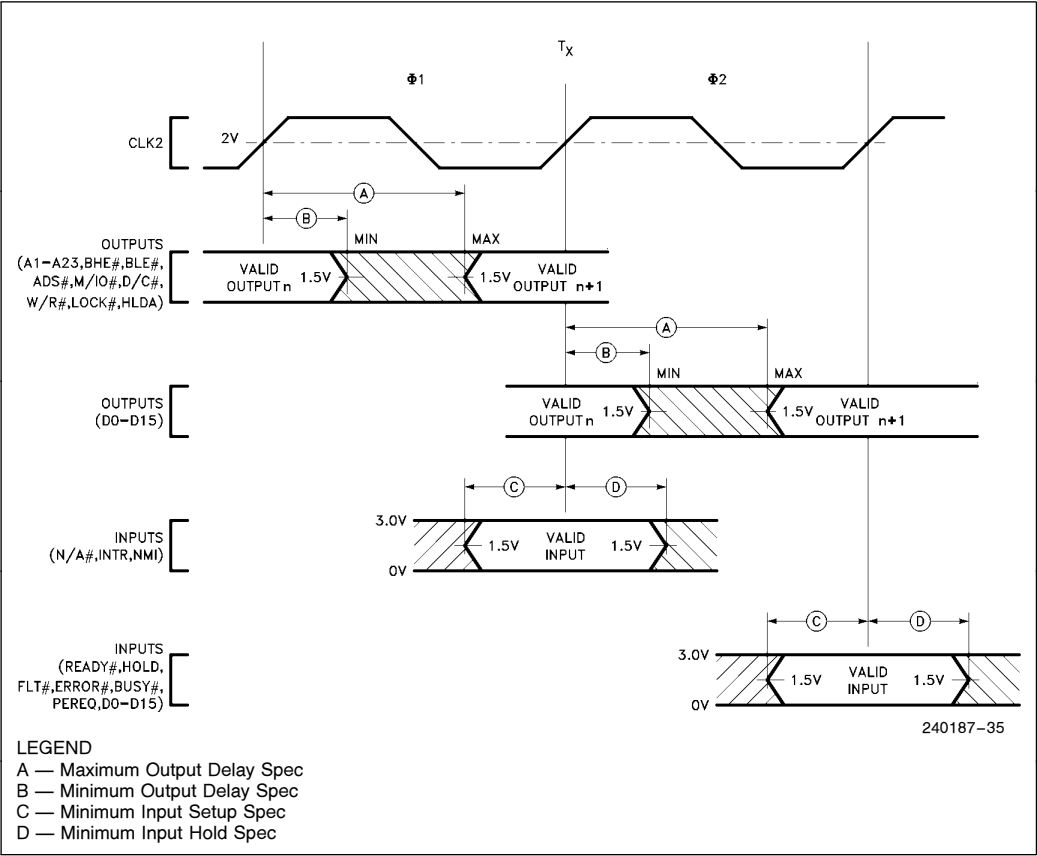

Figure 7.1. Drive Levels and Measurement Points for A.C. Specifications
A.C. spec measurement is defined by Figure 7.1. Inputs must be driven to the voltage levels indicated by Figure 7.1 when A.C. specifications are measured. Output delays are specified with minimum and maximum limits measured as shown. The minimum delay times are hold times provided to external circuitry. Input setup and hold times are specified